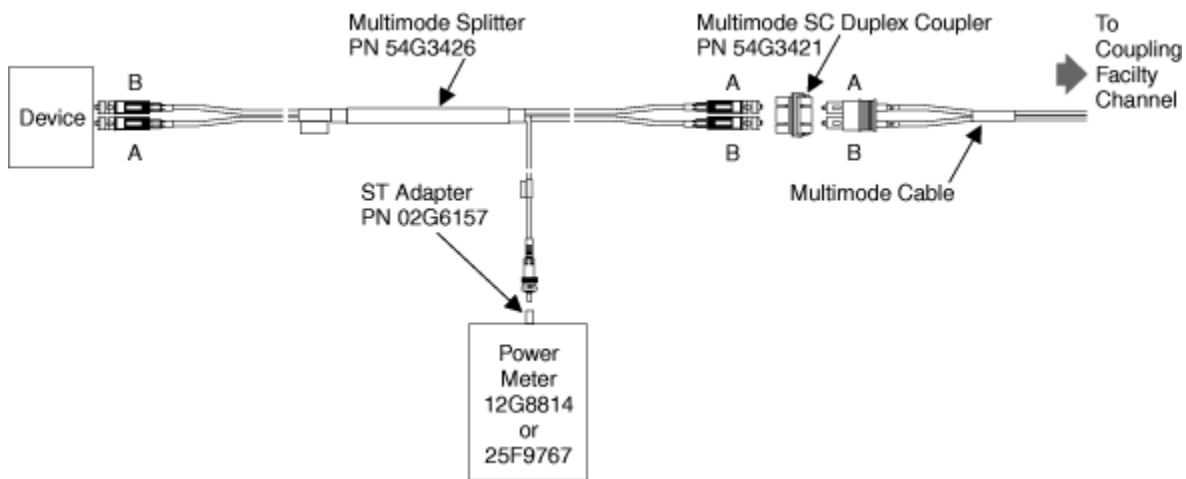

Figure 78. Measuring receive-in power for a multi-mode coupling link
5. If the transmitter power is within specification limits, connect the test equipment (see Figure 78 on page 76).
Make sure the connectors are clean; then assemble the test equipment (using Figure 78 on page 76) as follows: